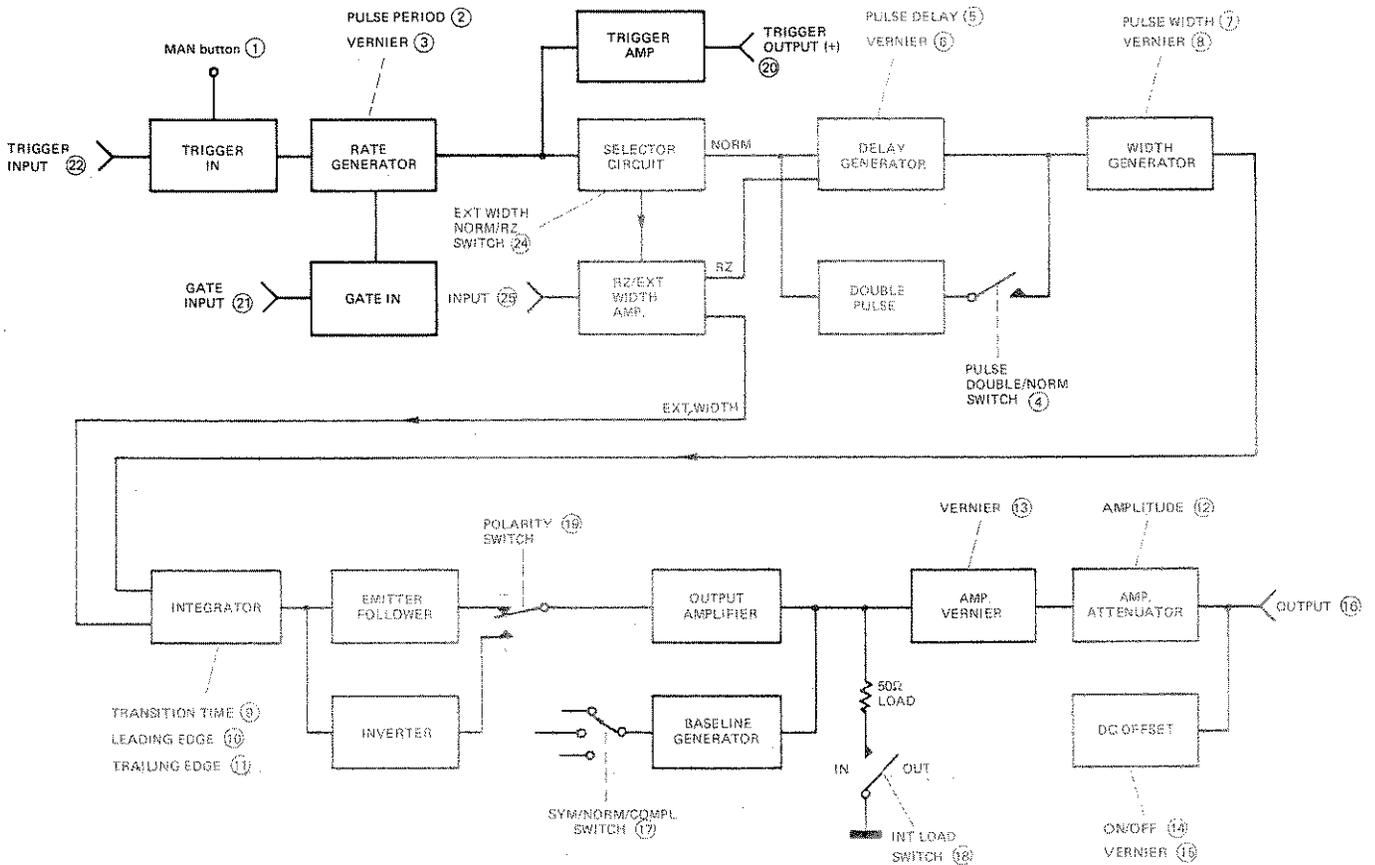

Figure 3-24. Independent clock generator in RZ/EXT WIDTH modes - block diagram
output can be triggered internally, externally or manually and can also be gated as in the normal operating mode. If this facility is not required, it can be switched off by setting the PULSE PERIOD control (2) to EXT and disconnecting the TRIGGER INPUT (22). The circuits and controls involved in this facility are shown in Figure 3-24.